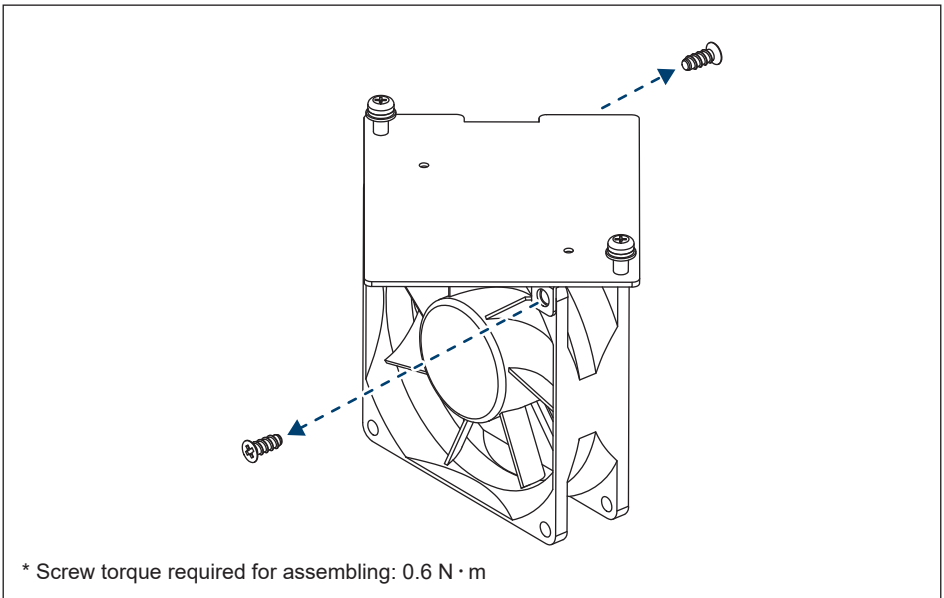

Figure 5-14: Replace with a new fan
- (4) Lift the entire fan assembly. (**Figure 5-14**)
- (5) Clean assembly or replace with a new fan.
- (6) Reassemble by using $0.8 \text{ N} \cdot \text{m}$ tightening torque.